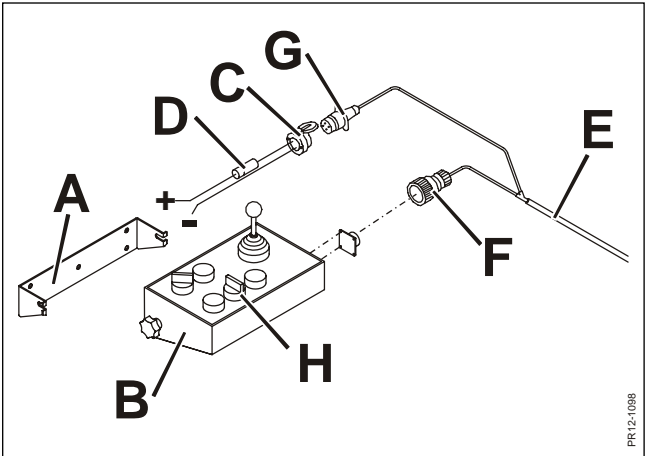
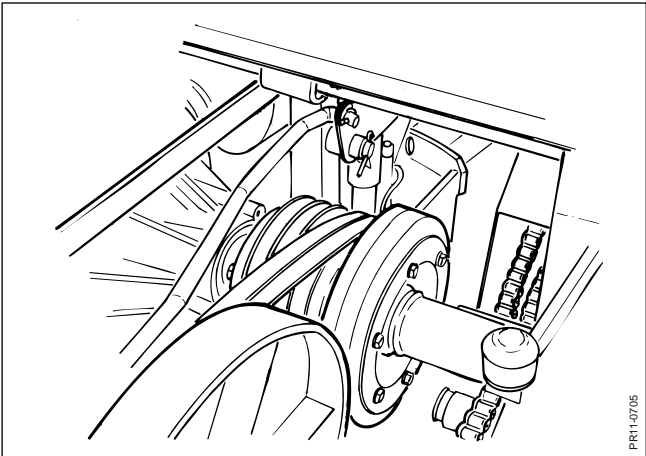

Fig. 5-10
Fig. 5-11
**Fig. 5-10** Mount the holder **A** for the control panel in a suitable place within the reach of the tractor driver and mount the control panel **B**. Mount the 3-pole socket **C** on the power supply cable somewhere in the tractor cabin. Connect the cable directly to the tractor battery, i.e. connect the cable with the fuse box **D** to **+**(positive) on the battery (remember that the fuse must be placed near the battery). The cable has a strong conductor to ensure minimal voltage drop and thus optimal function and life of the electric components of the machine. The fuse is a 25 ampere fuse (25A DIN 72581-1).
**Fig. 5-11** The reverse function of the machine has 3 positions: Feed intake, neutral and reverse. The system is controlled from the control panel in the cabin and by the microprocessor. On the control panel the switch **H** (on fig. 5-10) is for operation of the reverse system. From the control panel a control current is sent to the electronics box on the machine which then connects the main current on the relay to the wanted function.